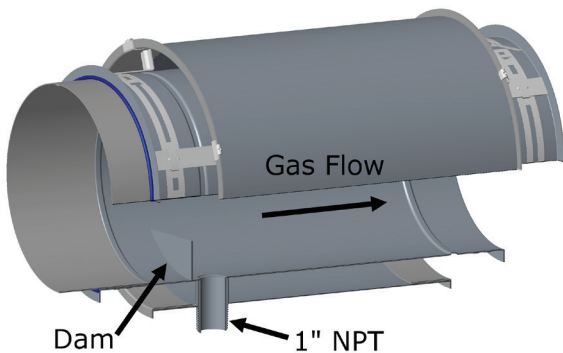

Figure 30- Horizontal Drain Length
1. Horizontal Drain length is equipped with a 1" (25) NPT nipple, which is attached to the inner flue and extends through the outer casing to provide a path to drain, condensate or water from the chimney. See Figure 30.
3. The duct drain is intended for use at the end of a horizontal run where access and drainage is needed (see Figure 30).